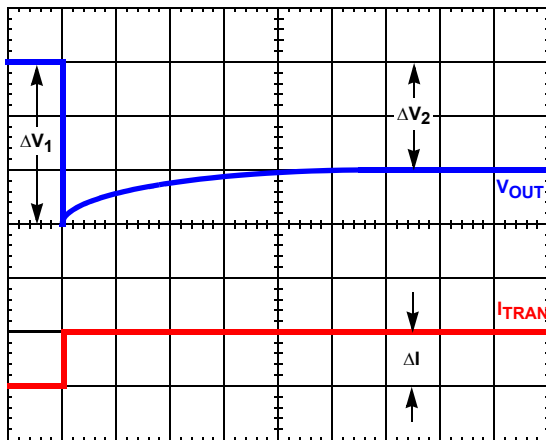

FIGURE 19. TIME CONSTANT MISMATCH BEHAVIOR
Due to errors in the inductance or DCR it may be necessary to adjust the value of  $R_1$  to match the time constants correctly. The effects of time constant mismatch can be seen in the form of droop overshoot or undershoot during the initial load transient spike, as shown in Figure 19. Follow the steps outlined in the following to ensure the R-C and inductor L/DCR time constants are matched accurately.
2. Record  $\Delta V_1$  and  $\Delta V_2$  as shown in Figure 19.